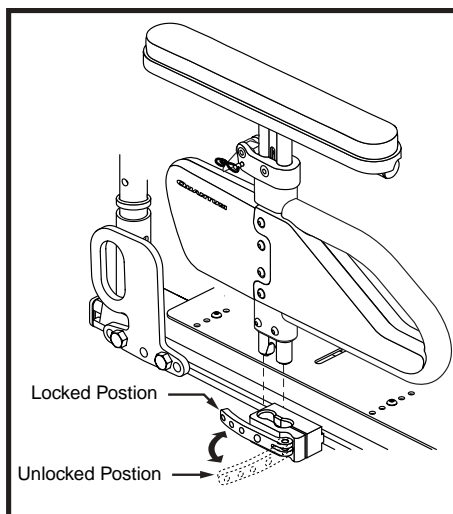

Figure 17. Single Post Quick Height Adjustable Armrest Removal/Installation
1. Rotate the armrest lock lever forward. See figure 17.
1. Place the armrest assembly into the armrest lock. See figure 17.